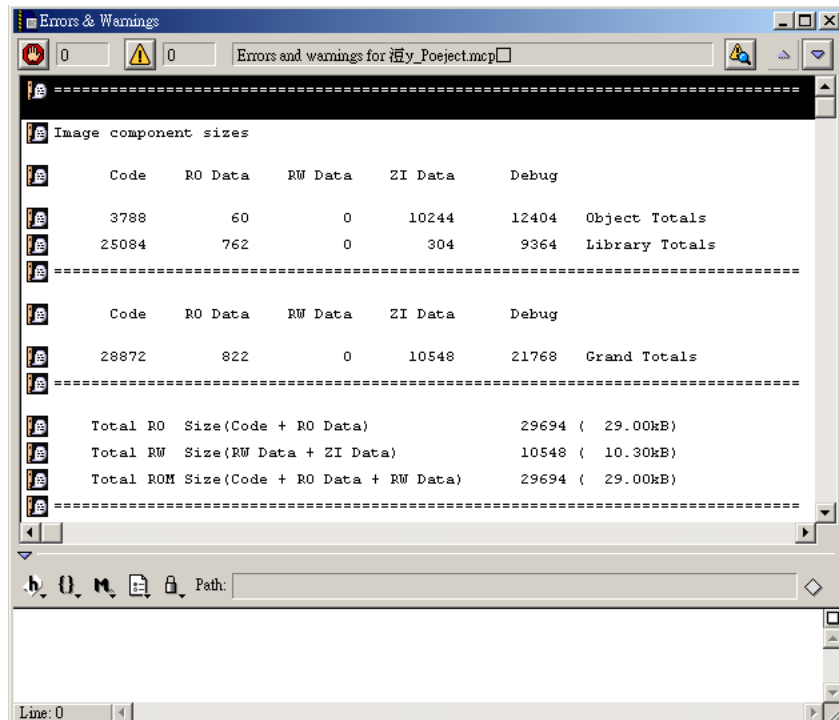

Figure 1. Show Code and Data Size by using -info totals.
- 4.2 After finishing compiling and linking, the **Errors and Warnings window** would appear, as shown in Figure 1.